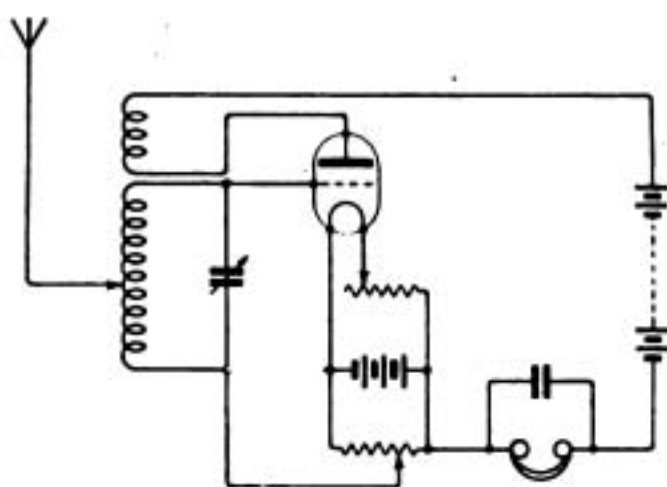

Fig. 2.
W.L.B. (Bristol) sends a sketch of his set, and asks (1) *How to apply a valve to it.* (2) *Whether to use a hard or soft valve.* (3) *A question about his aerial.* (4) *If four three-strand guy wires insulated from the ground will affect signals.*
(1) We wonder what results you get with your present set, as the connections are quite wrong. Connect as in Fig. 2.
(2) Hard.
(3) No, provided that the spreader itself is adequately insulated from earth.
(4) Probably not to any extent.
C.P.V. (Holloway) asks (1) Which is the better of two suggested aerial arrangements. (2) A question about the windings of a telephone transformer. (3) Which is the better for telephony, a single valve, or a valve and crystal set.
(1) That of Fig. 2.
(2) The rule that the resistance should be that of the telephones is approximate only. The value you suggest, though not the most efficient, will probably give quite good results.
(3) Valve and crystal.
A.R.P. (Malborough) asks (1) What type of variable condenser we recommend for a capacity reaction (2) Windings for a transformer for 4,000 ohms telephones. (3) For any suggested improvements to his set. (4) What is the call signal of the "Quest."